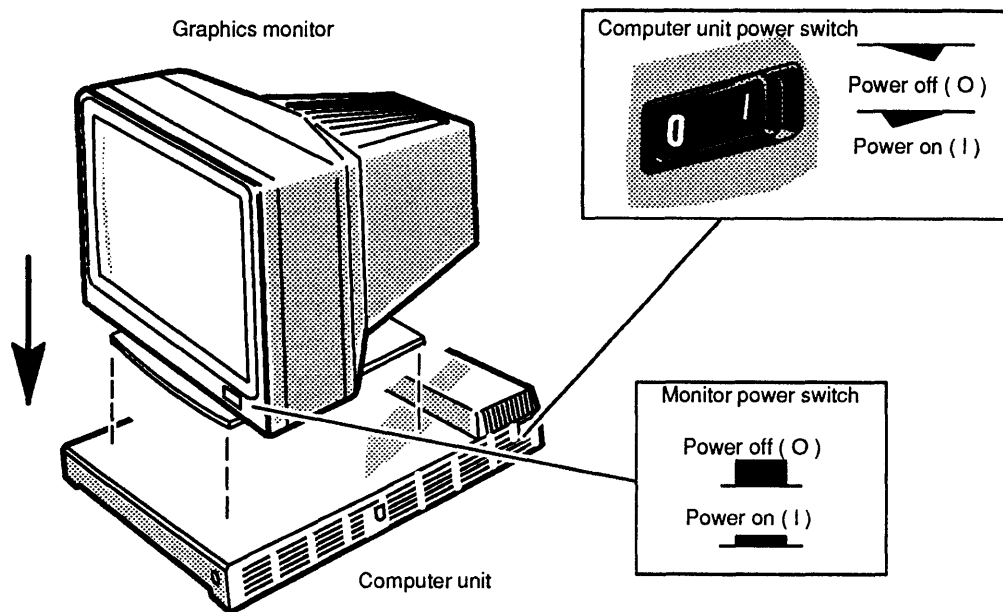

Figure 2-16 Placing the Graphics Monitor
1. Make sure the computer unit is in its final location; then, place the monitor on top of the computer unit. Make sure that the power switches for both the computer unit and the monitor are off, as shown in Figure 2-16.